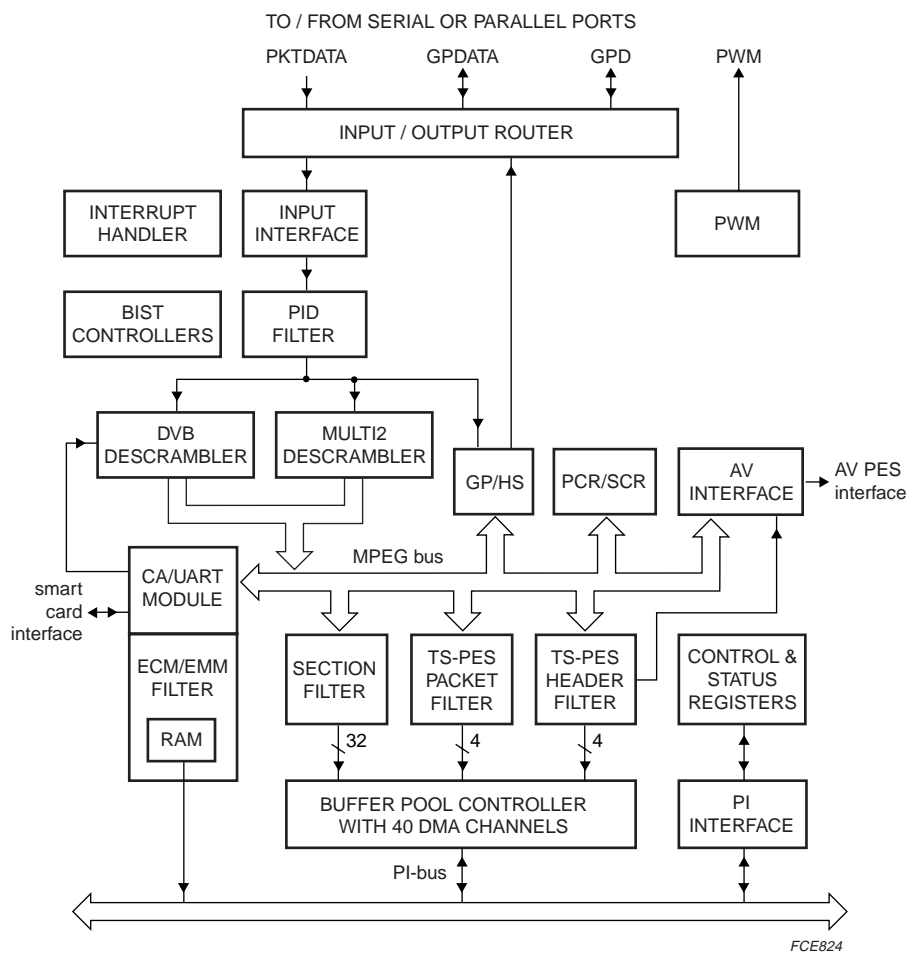

Fig.2 MSP block diagram.
(1) The MSP section is shown in more detail in Fig.2.